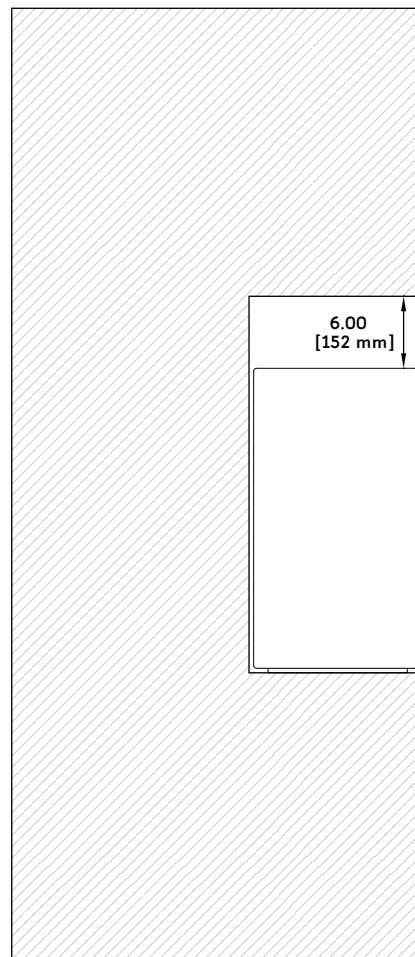

Figure 7: Acheron Designer Mounted in Soffit, Flush Against Back of Soffit with 6" of Ventilation Above Loudspeaker
- When installing the Acheron Designer in a soffit with the loudspeaker flush against the back of the soffit (see Figure 7), allow at least 6 inches above the loudspeaker for ventilation.